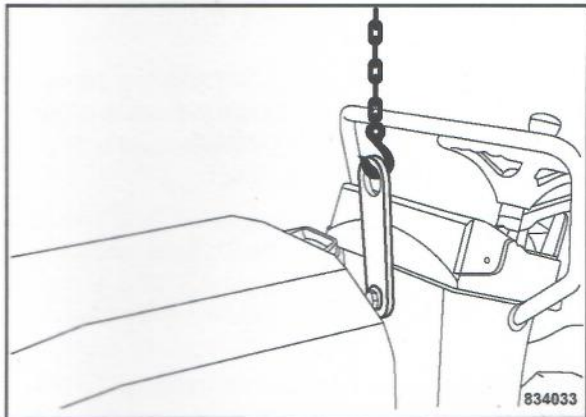

Fig. 51
- Use the central lifting facility (Fig. 51) to lift the machine.